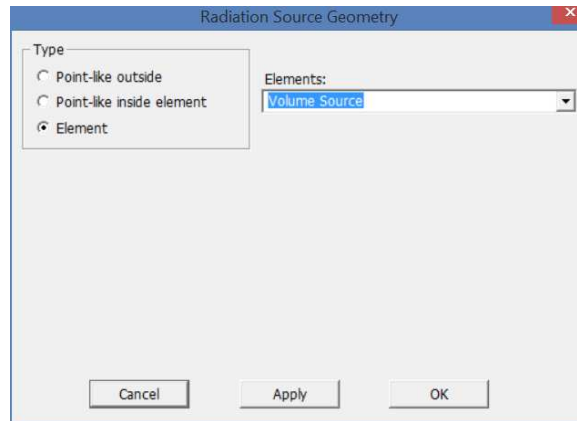

Figure 53.14
7.11 In the menu of the window **Calculation** select **Options->Radiation Source Geometry**. In the appeared window **Radiation Source Geometry** (see Figure 53.14) set the type **Element** and then select item 'Volume Source' from the drop-down list. Click **OK**. [Section 4.2].